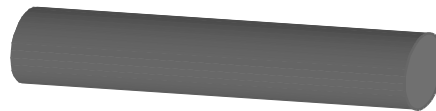
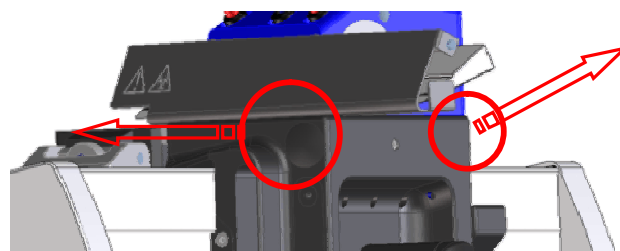

Fig. 4-3-1
Fig. 4-3-2
As required by users to vary the weight of the sledge, we have included additional ballast (Fig. 4-3-1) into the standard equipment.
- Remove the two cover caps, located sideways at the sledge (Fig. 4-3-2).
- Insert the ballast (Fig. 4-3-1) into the opening and close it again by using the two cover caps (Fig. 4-3-2).